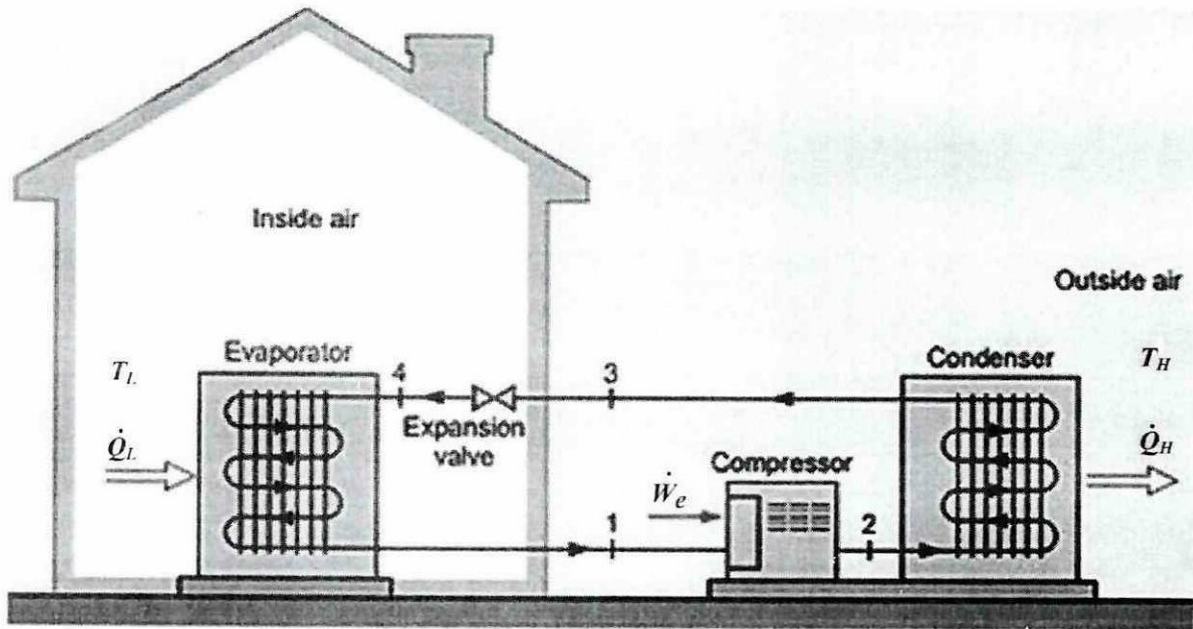

Figure Q5(c)
- (c) The illustration shown in **Figure Q5(c)** depicts how an air-conditioner can act as a refrigerator by cooling a room on a hot day. The system should remove 4 kW of heat from the room with a temperature of 24°C to the ambient air outside, which is 35°C. Determine the maximum coefficient of performance (COP) of the air-conditioner and the minimum amount of work input required.